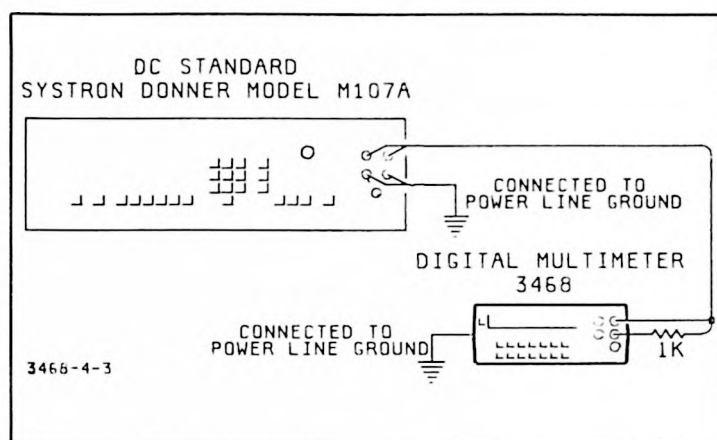

Figure 4-3. DC Common Mode Rejection Test
r. (Step #16.) Select the 3468A/B's 5 Digit Display mode by pressing the blue Shift button and then the Downrange (5) button.
4. With the DC Volts Standard's output off, connect the standard to the 3468A/B as shown in Figure 4-3.
i. Connect the AC-DC Current Calibrator to the 3468A/B as shown in Figure 4-3.